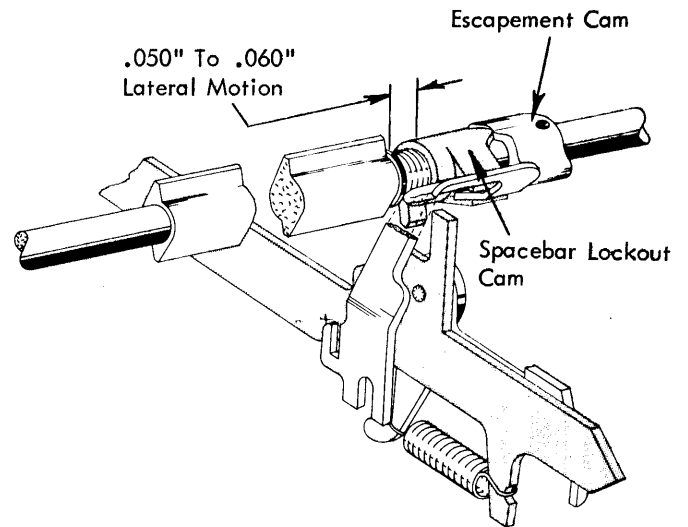

FIGURE 193. Lateral Adjustment Of The Escapement Cam
- a. Lockout Cam - Adjust the escapement cam left or right on the filter shaft so that when the lockout cam is on the high point of the escapement cam the lockout cam will have .050" to .060" lateral motion remaining toward the left (Fig. 193).